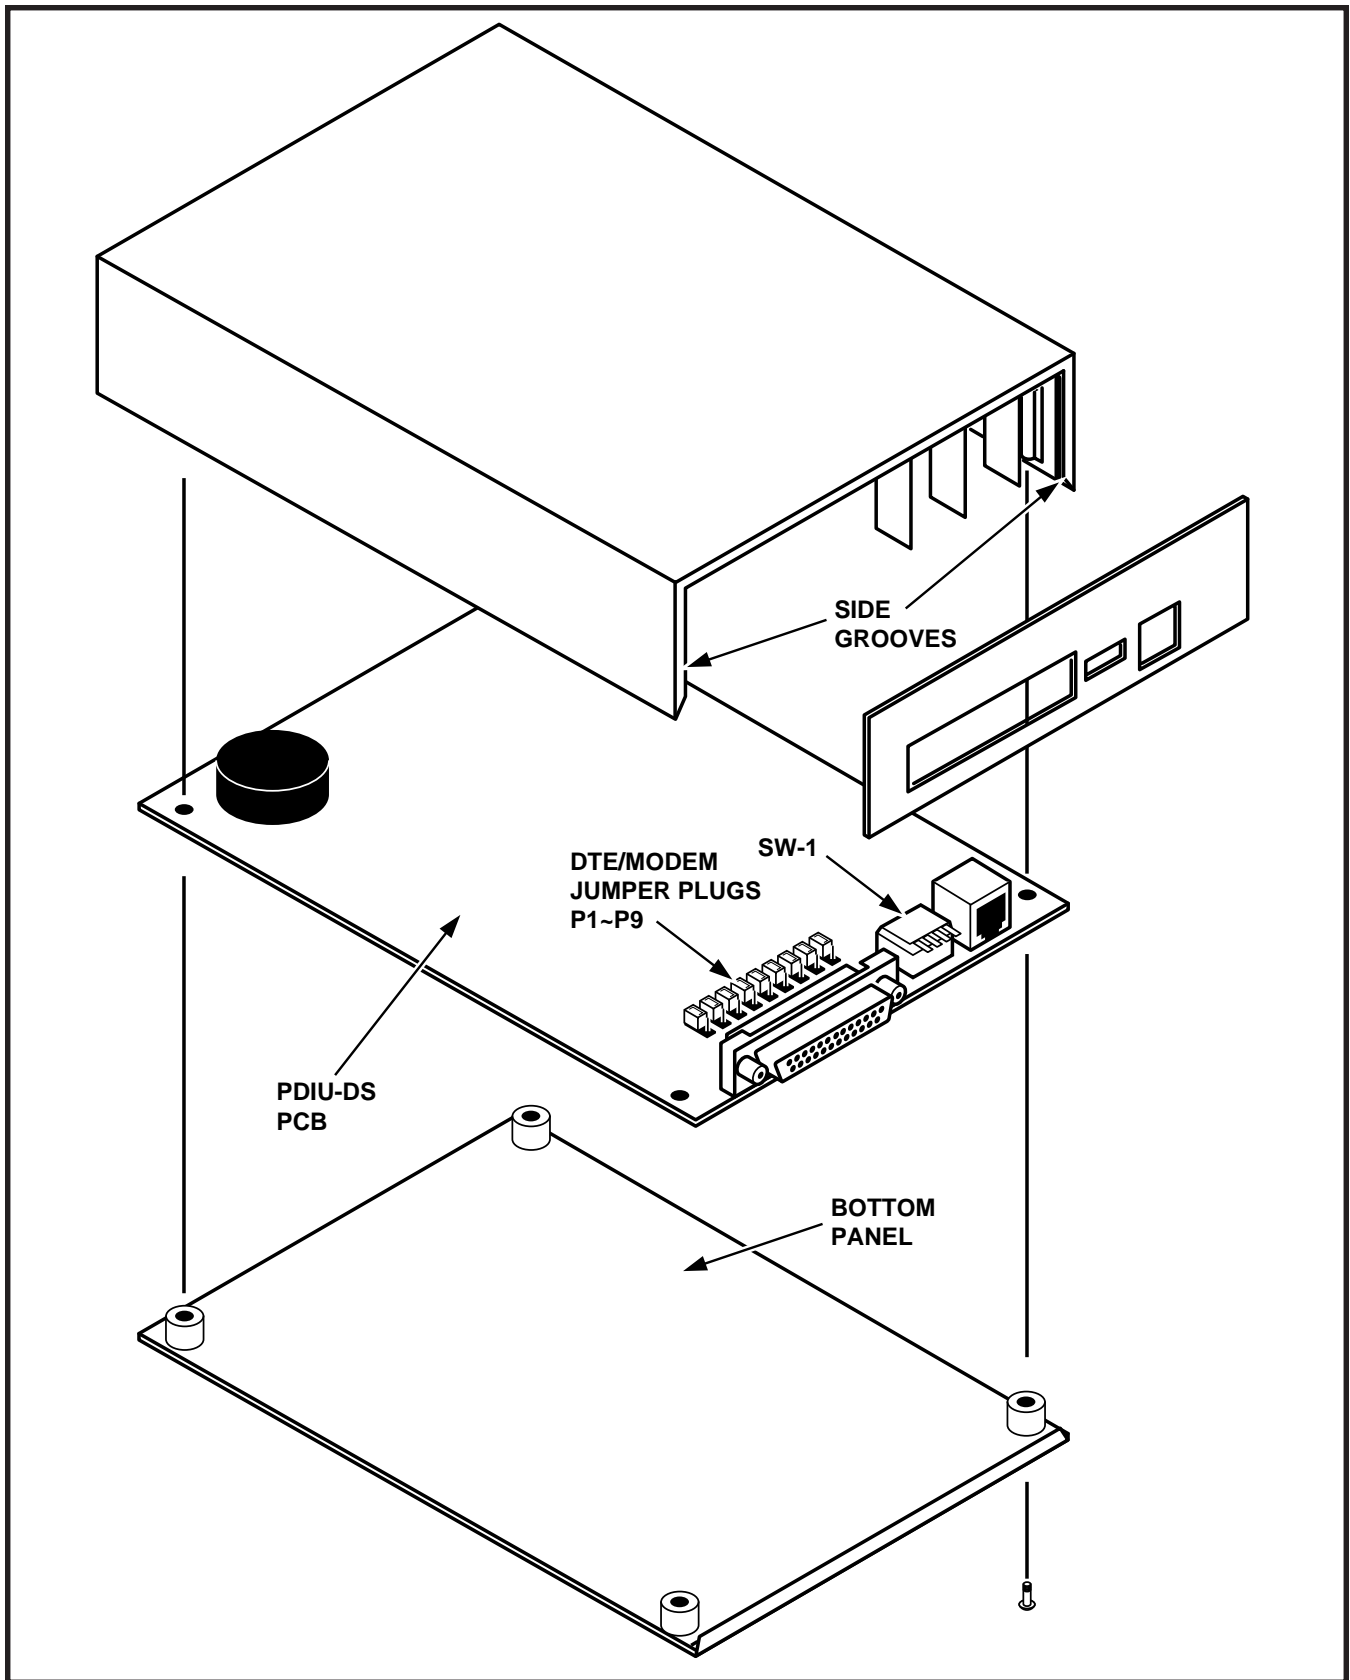

FIGURE 4-61—PDIU-DS DISASSEMBLY/ASSEMBLY DIAGRAM
**6.171** To set the jumper plugs **P1 ~ P9** on the sub-assembly inside the PDIU-DS for DCE or DTE operation, the PDIU-DS must be disassembled (Figure 4-61). Disassemble the PDIU-DS in accordance with the steps in Paragraph **6.172**.